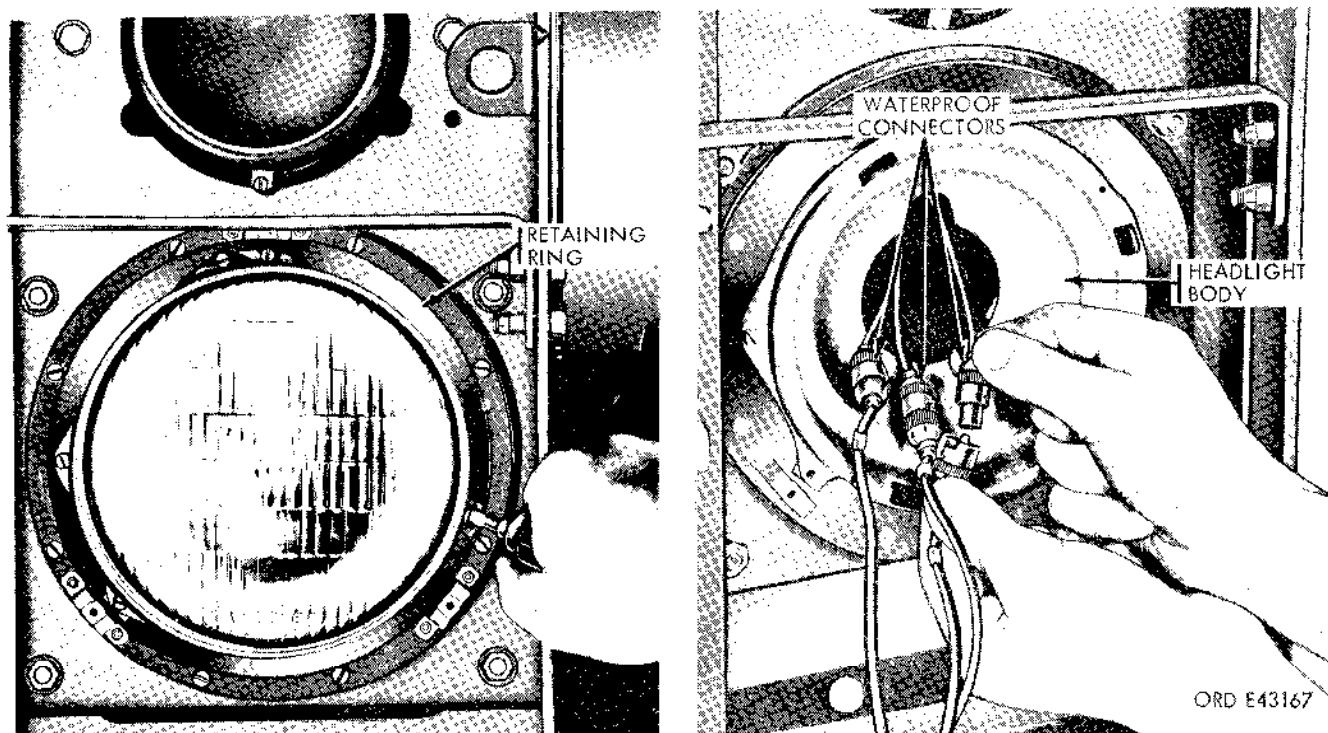

Figure 2-155. Removing headlight retaining ring and sealed-beam lamp unit.
- (2) Remove the three screws attaching the retaining ring (fig. 2-155) to the headlight body, and remove the ring.
- (3) Pull the sealed-beam lamp unit from headlight body, and disconnect the cables at the waterproof connectors (fig. 2-155).
(1) Connect the three cables at the waterproof connectors (fig. 2-155), and position the lamp unit in the headlight body.
(2) Position the retaining ring (fig. 2-155), and secure it with three screws.